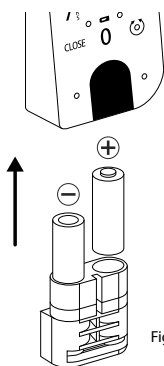

Fig. 5
② Remove the old batteries and dispose of them appropriately.
③ Insert two new batteries. Make sure that the polarity is correct according to the drawing (Fig. 5).